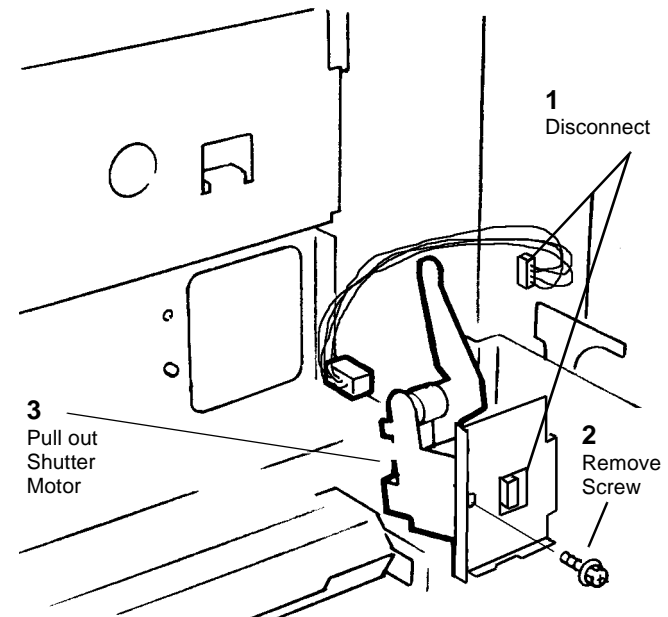

Figure 1 Removing Shutter Motor
8. Remove Shutter Motor (Figure 1).